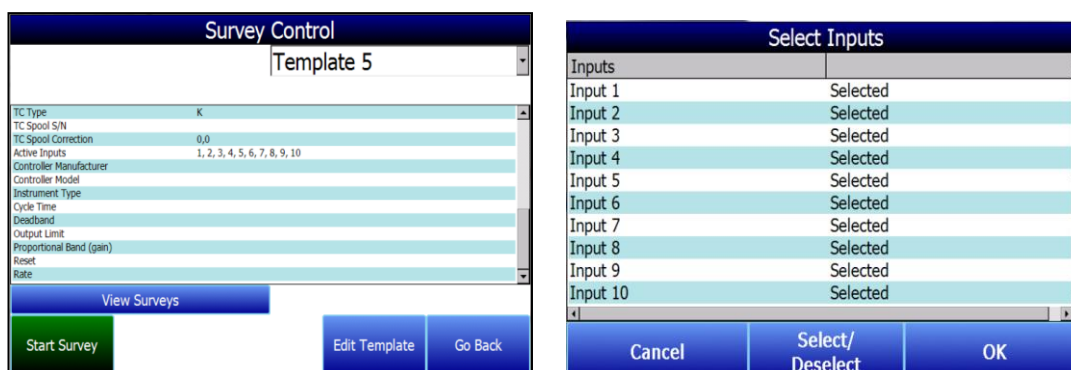

Figure 7 - Survey Control and Input Selection screens
1. When a template has been selected, the input channels setup for the template, as defined in the Template Manager, will be the selected channels for the survey. **It is strongly suggested that you select a template prior to running a survey.** If you want to create new templates, please see the section *SDS Template Manager*. Survey Control and input selection screens are shown in Figure 7.